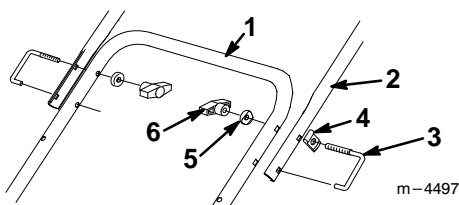

Figure 9
3. Install the upper handle as illustrated in Figure 9.